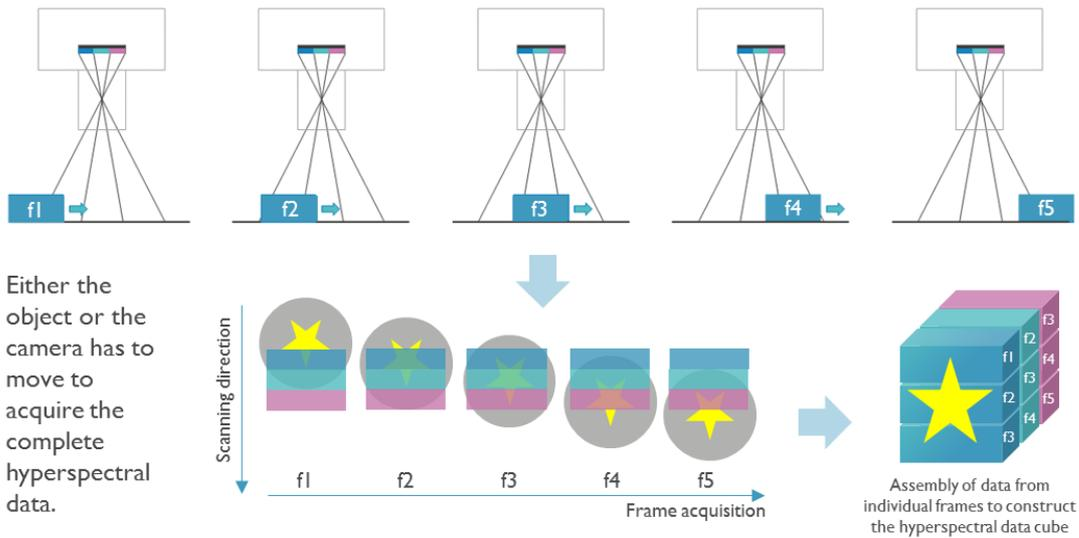

Figure 10 Working principle for imec hyperspectral linescan sensors
- *The camera's lens projects an entire area image on the imec hyperspectral linescan sensor. Different filters are deposited on the sensor, stretching over the full width of the sensor and varying along the sensor's height. The light is thus filtered depending on the row position of the image on the sensor, yielding images as shown in Figure 10. This greatly simplifies the system's optical system and on top makes focusing and setting exposure times easier.*
The difference between imec's hyperspectral linescan and snapscan is illustrated in Figure 10 and Figure 11. These illustrations assume a hypothetical linescan sensor with three spectral bands.